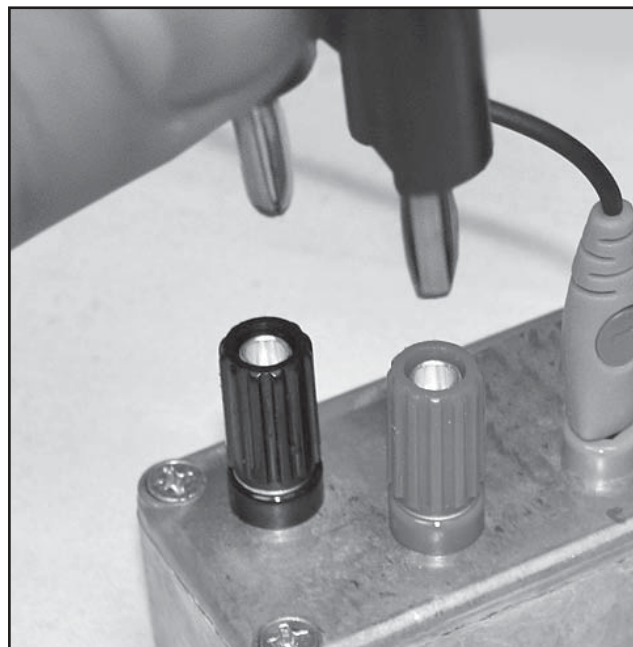

FIGURE 5.34
7. Make certain the Audio Signal Generator is set up per **5.19, part B, steps 1, a) through 1, g)**. Connect the Audio Signal Generator Test Leads from the Generator SYNC Ports to the Attenuator (make certain test leads are connected red to red and black to black). **See Figure 5.34.**